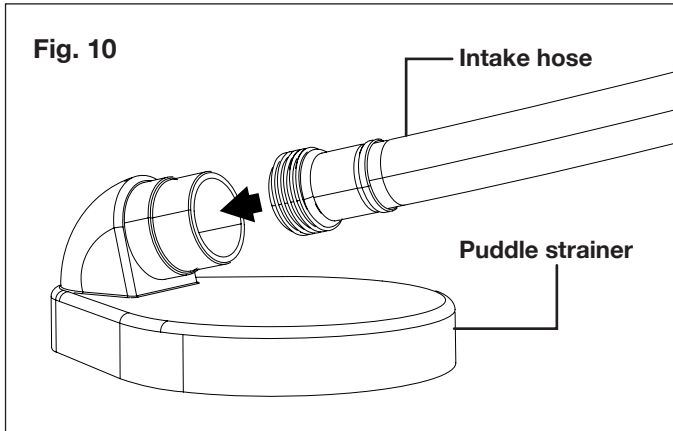

Fig. 10
2. When the water needing to be transferred contains large particles, or is too shallow to be sucked by the intake hose, use the equipped puddle strainer. Simply connect it with the male end of the intake hose, twist to secure, and place the strainer in the center of the water to be transferred (Fig. 10).